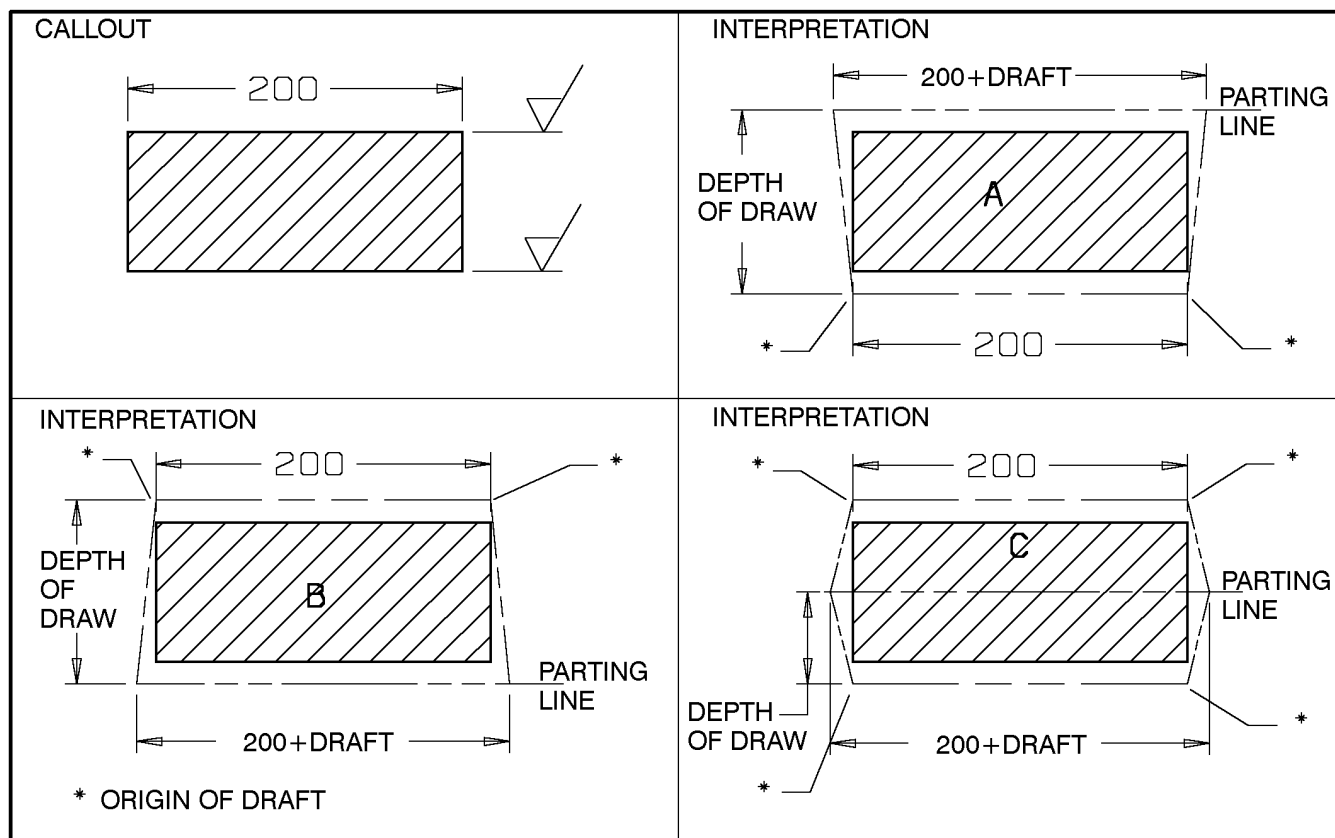

Figure 24 - Parting Location - Origin of Draft Not Shown Pictorially
**11.16 Parting Location - Origin of Draft** - Figure 24 illustrates direction of parting, draft, and basic profile of a casting when the draft remains on the completed part but is not shown pictorially nor indicated by a special machine allowance.